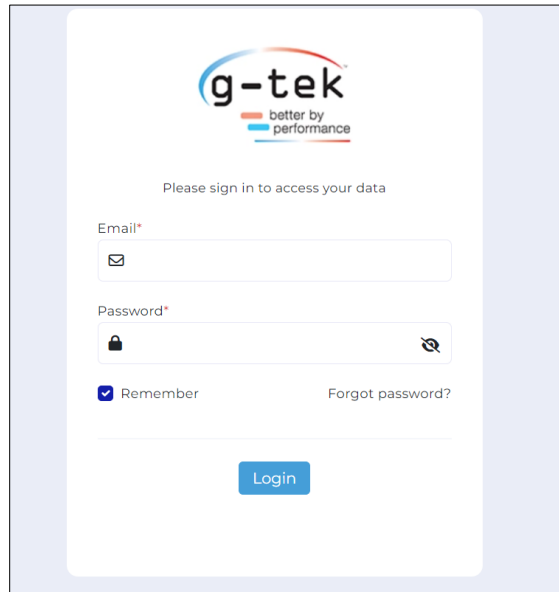

Figure 45 Login Page of the GtekCloud Server Application
- Open the “GtekCloud” server as per the link and login details shared by the manufacturer as shown in the figure 45.